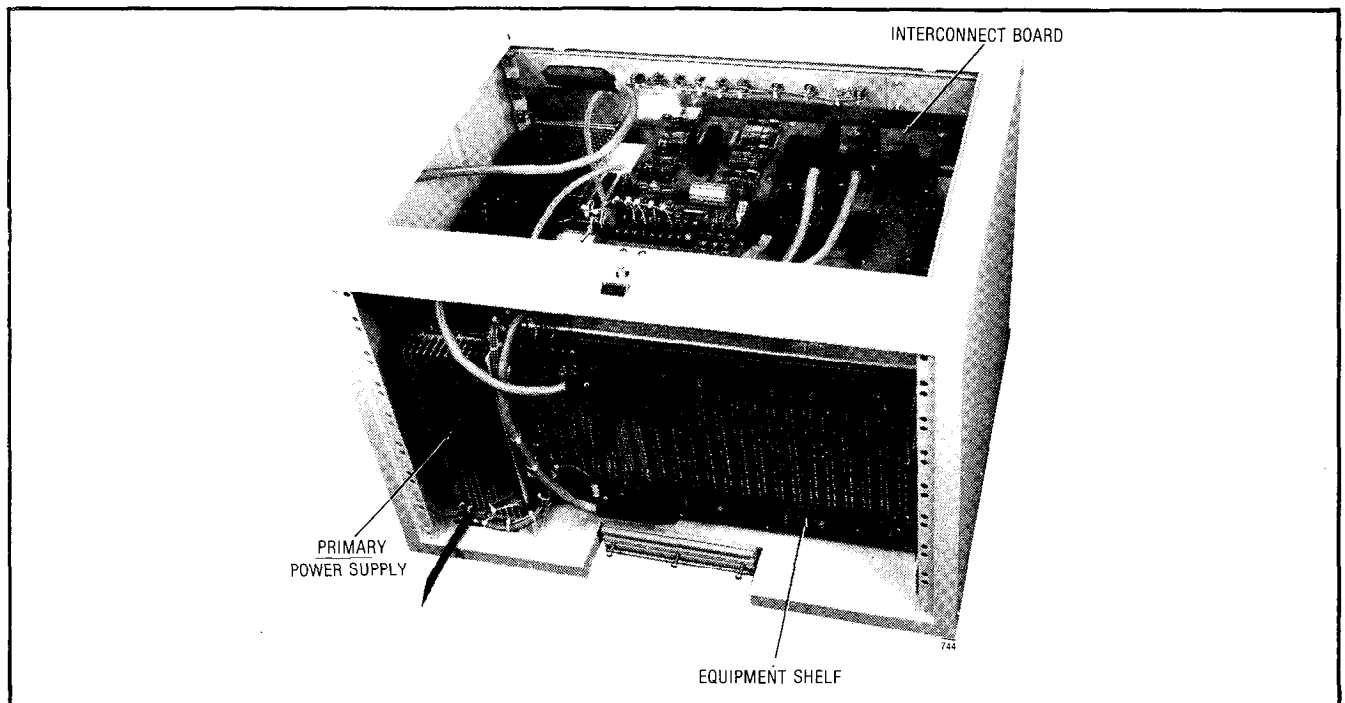

Fig. 2-6 SX-100 Primary Power Supply
2.15 The system primary power supply (Fig. 2-6 and 2-7), provides all system power from a 115Vac. In the SX-200 optional factory strapping provides 220Vac operation. The SX-100 has a 220Vac adapter to provide power to the system.